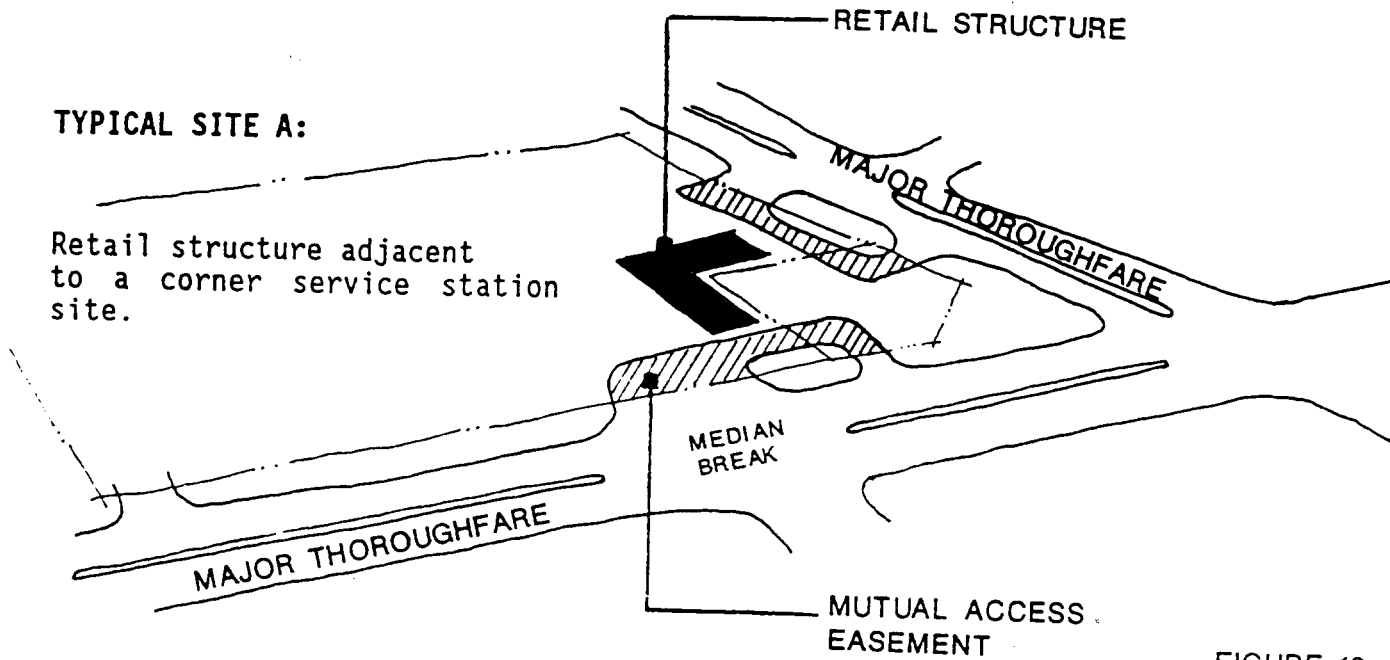

FIGURE 18
- Pad sites shall be required to obtain mutual access and parking agreements with the remaining retail center. This shall be required in order to enhance safe, on-site circulation and provide access to left turn lanes. (See Figures 18 & 19; Ordinance No. 87-1-32.)